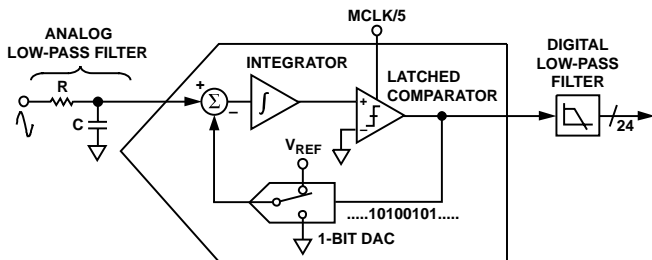
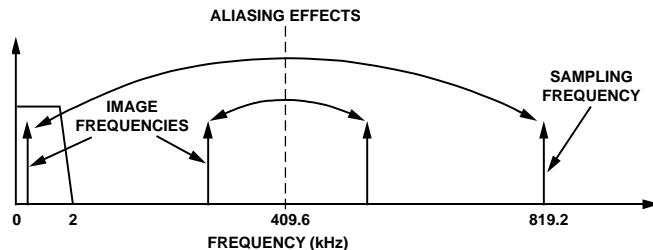

Figure 18. First-Order Σ - Δ ADC
Figure 20. ADC and Signal Processing in current channel Outline Dimensions
For simplicity, the block diagram in Figure 18 shows a first-order Σ - Δ ADC. The converter is made up of the Σ - Δ modulator and the digital low-pass filter.
Figure 18 also shows an analog low-pass filter (RC) on the input to the modulator. This filter is present to prevent aliasing. Aliasing is an artifact of all sampled systems. Aliasing means that frequency components in the input signal to the ADC, which are higher than half the sampling rate of the ADC, appear in the sampled signal at a frequency below half the sampling rate. Figure 20 illustrates the effect. Frequency components (arrows shown in black) above half the sampling frequency (also known as the Nyquist frequency, i.e., 409.6 kHz) are imaged or folded back down below 409.6 kHz. This happens with all ADCs regardless of the architecture. In the example shown, only frequencies near the sampling frequency, i.e., 819.2 kHz, move into the band of interest for metering, i.e., 40 Hz to 2 kHz. This allows the use of a very simple LPF (low-pass filter) to attenuate high frequency (near 819.2 kHz) noise, and prevents distortion in the band of interest. For conventional current sensors, a simple RC filter (single-pole LPF) with a corner frequency of 10 kHz produces an attenuation of approximately 40 dB at 819.2 kHz — see Figure 20. The 20 dB per decade attenuation is usually sufficient to eliminate the effects of aliasing for conventional current sensors. However, for a di/dt sensor such as a Rogowski coil, the sensor has a 20 dB per decade gain. This neutralizes the -20 dB per decade attenuation produced by one simple LPF. Therefore, when using a di/dt sensor, care should be taken to offset the 20 dB per decade gain. One simple approach is to cascade two RC filters to produce the -40 dB per decade attenuation needed.